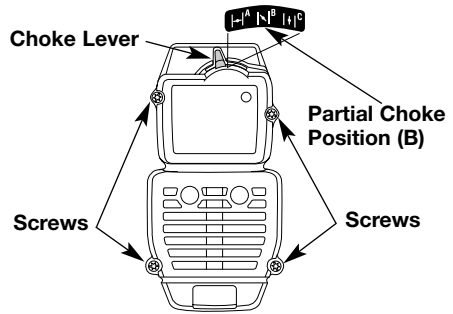

Fig. 20
NOTE: The choke lever must be in the **PARTIAL** choke position (**B**) (Fig. 20) to remove the air filter/muffler cover.
2. Remove the four (4) screws securing the air filter/muffler cover (Fig. 20). Use a flat blade or #20 Torx bit screwdriver.
NOTE: The choke lever must be in the **PARTIAL** choke position (**B**) (Fig. 20, Pg. 17) to install the air filter/muffler cover.